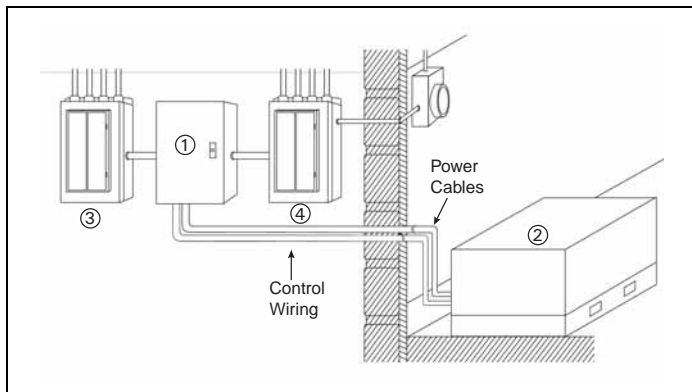

Figure 15. Typical Installation of a Residential or Light Commercial ATS.
In a typical installation for critical loads (see Figure 15), the ATS (1) and the generator (2) are connected to the power supply. The ATS (1) and emergency distribution panel (3) receive utility power from a dedicated breaker in the utility service panel (4). The ATS and emergency panel receive generator power from the generator (2). Power from the utility feeds the utility panel.